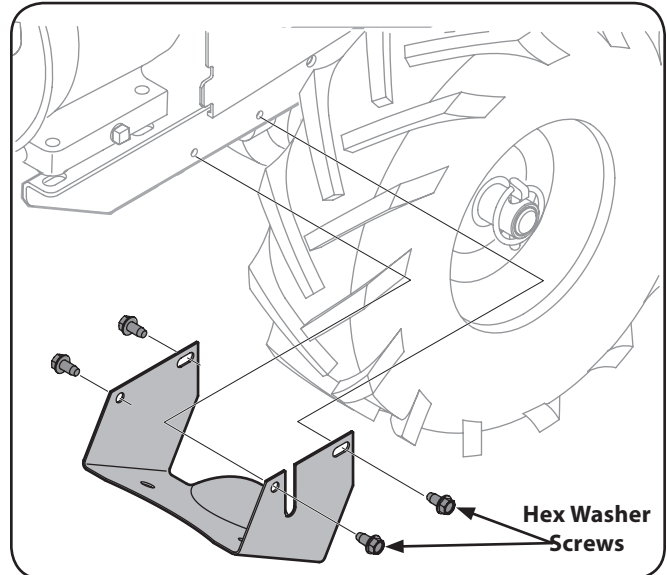

Figure 7-2
3. Remove the four hex washer screws that secure the pulley shield to the frame as seen in "Figure 7-2", and remove the pulley shield and set aside in a safe location until reinstallation.